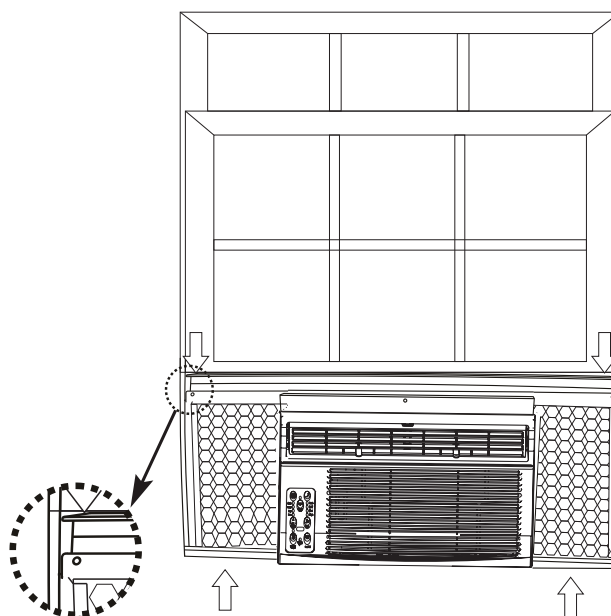

Fig.11
**NOTE:** If storm window blocks AC, see Fig. 11.
In order to minimize air leaks between the room air conditioner and the window opening, trim the weather stripping with a proper length, peel off the protective backing and plug any gaps if needed (Fig .11).